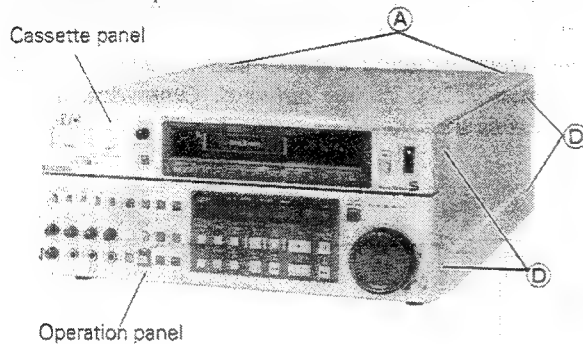

Fig. 1-1-1
2. Remove four screws (D) (see Fig. 1-1-1) and take off a side cover.